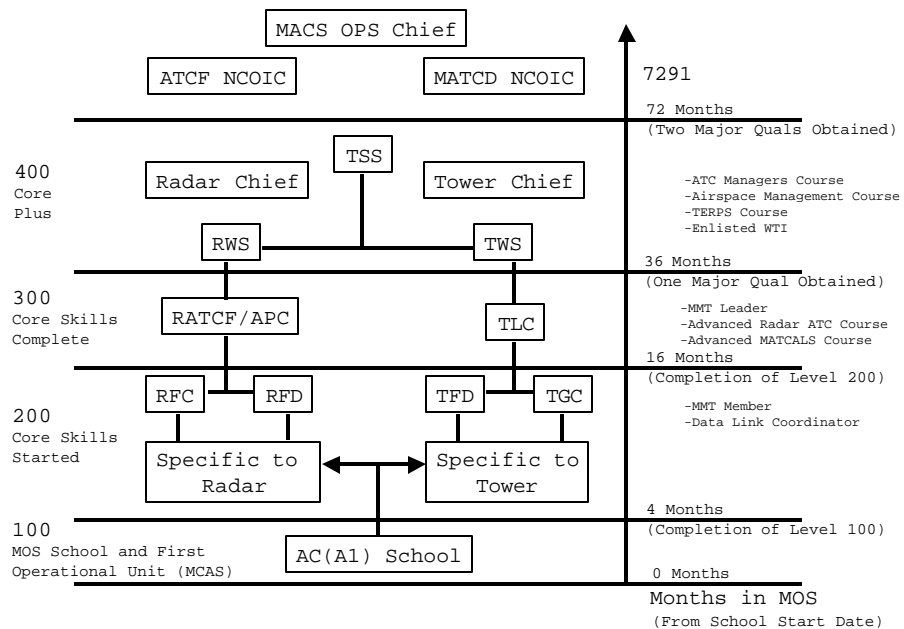

Figure 2-1.--Enlisted Air Traffic Controller Progression Model.
1. The Training Progression Model for the enlisted ATC is depicted in figure 2-1. This model depicts the **logical progression of qualifications** within a unit. The Combat Capable level is achieved at the completion of initial MOS